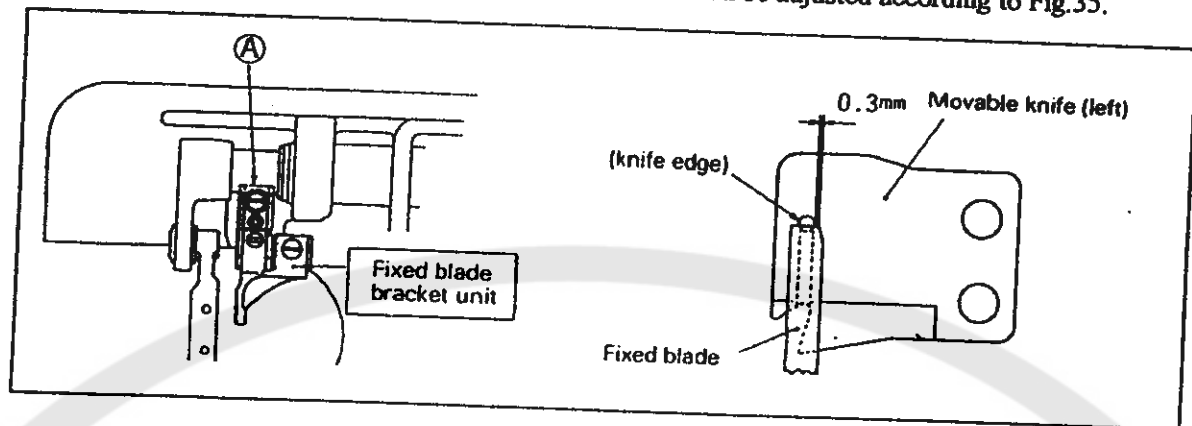

Fig.35
- (1) The standard position is illustrated as Fig.35.
- (2) The distance between the fixed blade and movable knife is 0.3mm.
- (3) The correct position of fixed blade bracket or fixed blade can be adjusted according to Fig.35.